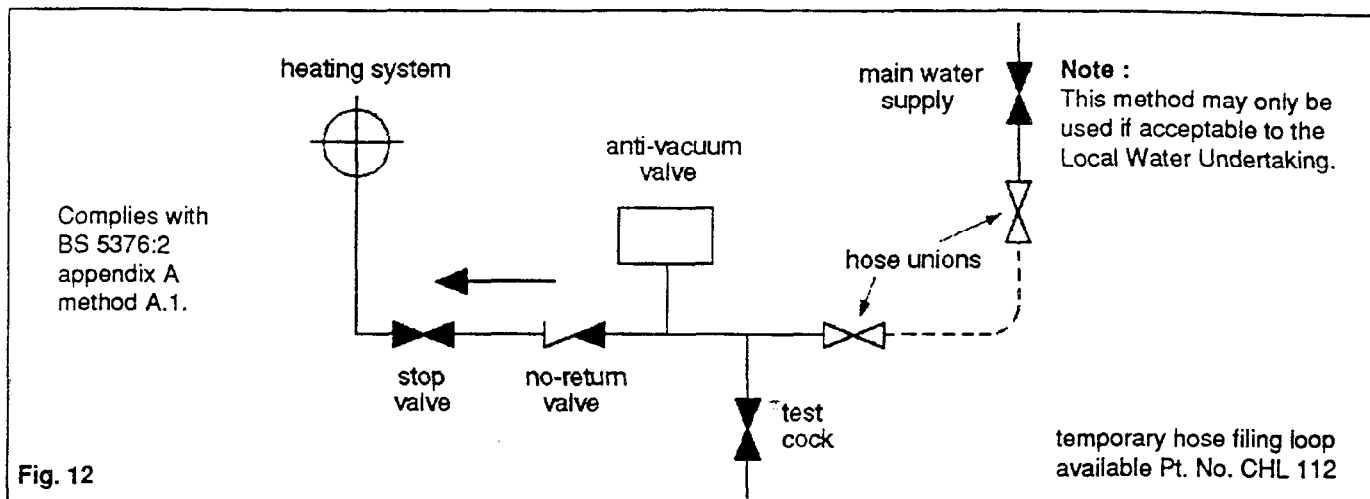

Fig. 12
There shall be no permanent connection to the Heating System Pipework for filling or replenishing without the approval of the Local Water Authority (see Byelaw No.14 and figs. 12 and 13).
- 1) Through a temporary hose connection from a draw off tap supplied from a service pipe under mains pressure provided that this is acceptable to the Local Water Authority, see fig. 12).